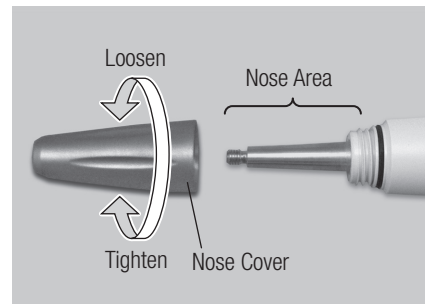

Fig.26
- 2) Brush any contaminants from inside the Nose Area with a soft brush. (Do not use metal brush) Wipe with alcohol soaked cloth (Fig. 26).